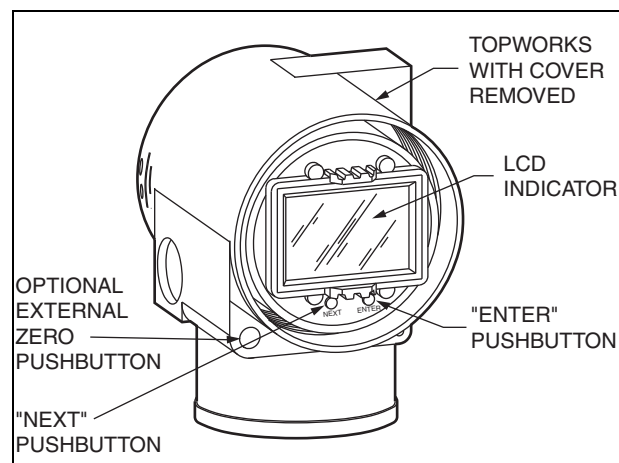

Figure 17. LCD Indicator with Pushbuttons
**Optional LCD Indicator with On-Board Pushbuttons (Figure 17)**
**Optional External Zero Adjustment (Figure 17)**